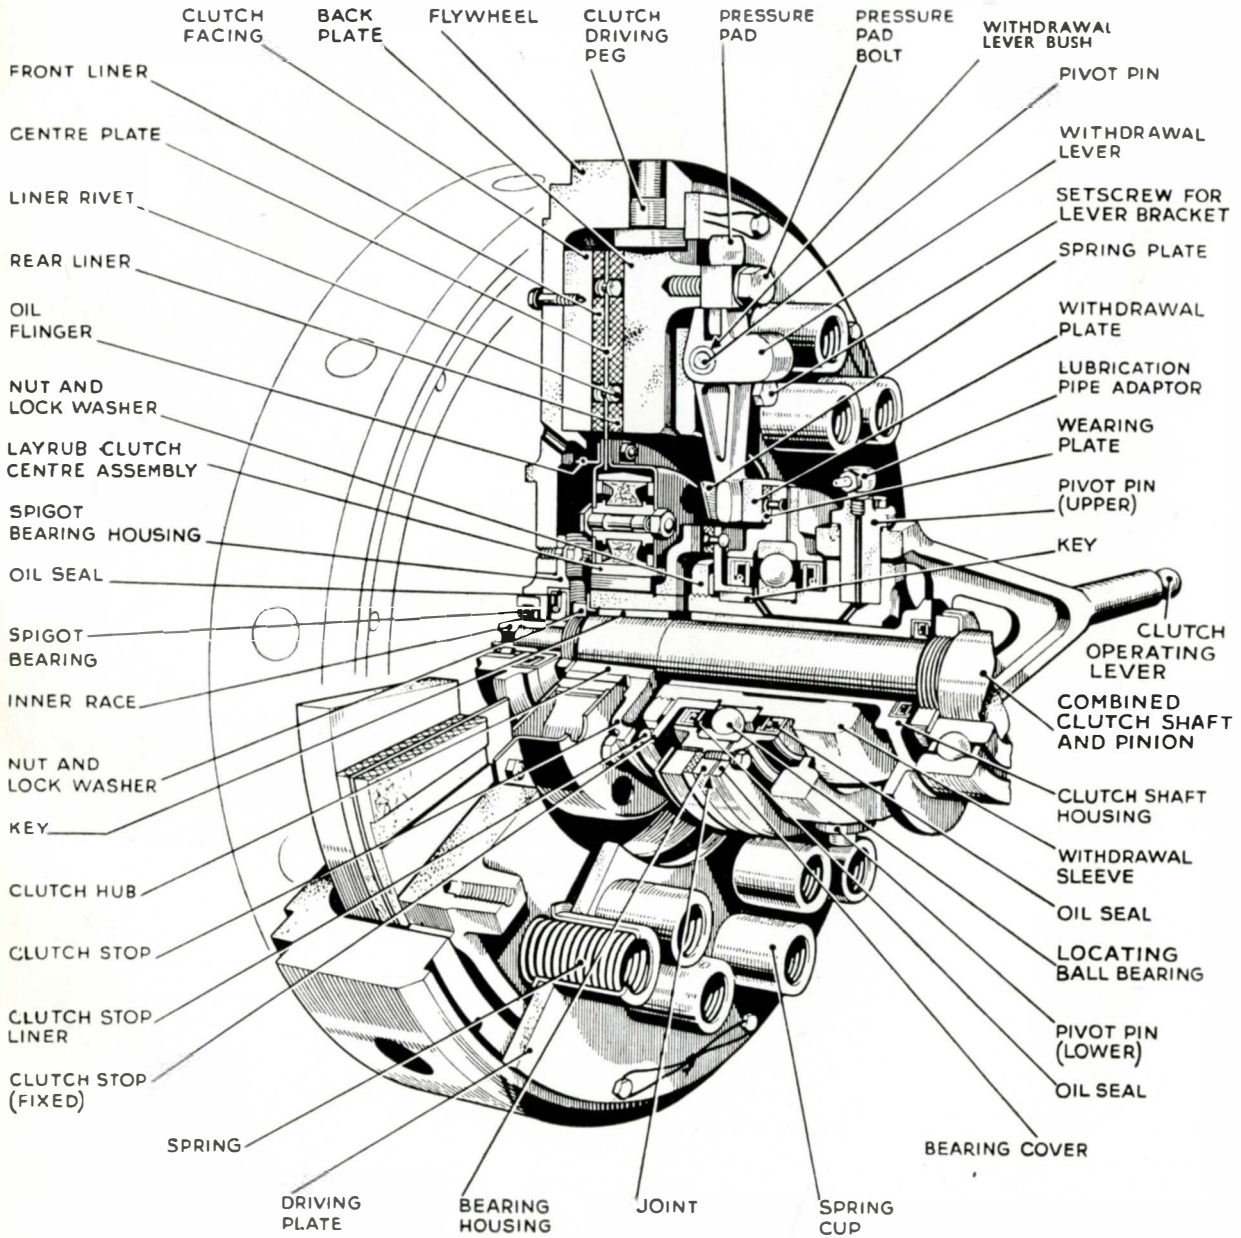

FIG. 2. THE CLUTCH ON THE HEAVY GOODS VEHICLE
**Note:** The clutch fitted to the Heavy Goods vehicle is equipped with a fixed clutch stop. This comprises a flange mounted on the withdrawal sleeve and faced with a liner. When the clutch is operated this comes in contact with a flange fixed to the clutch hub, shown in Figs. 2 and 11.